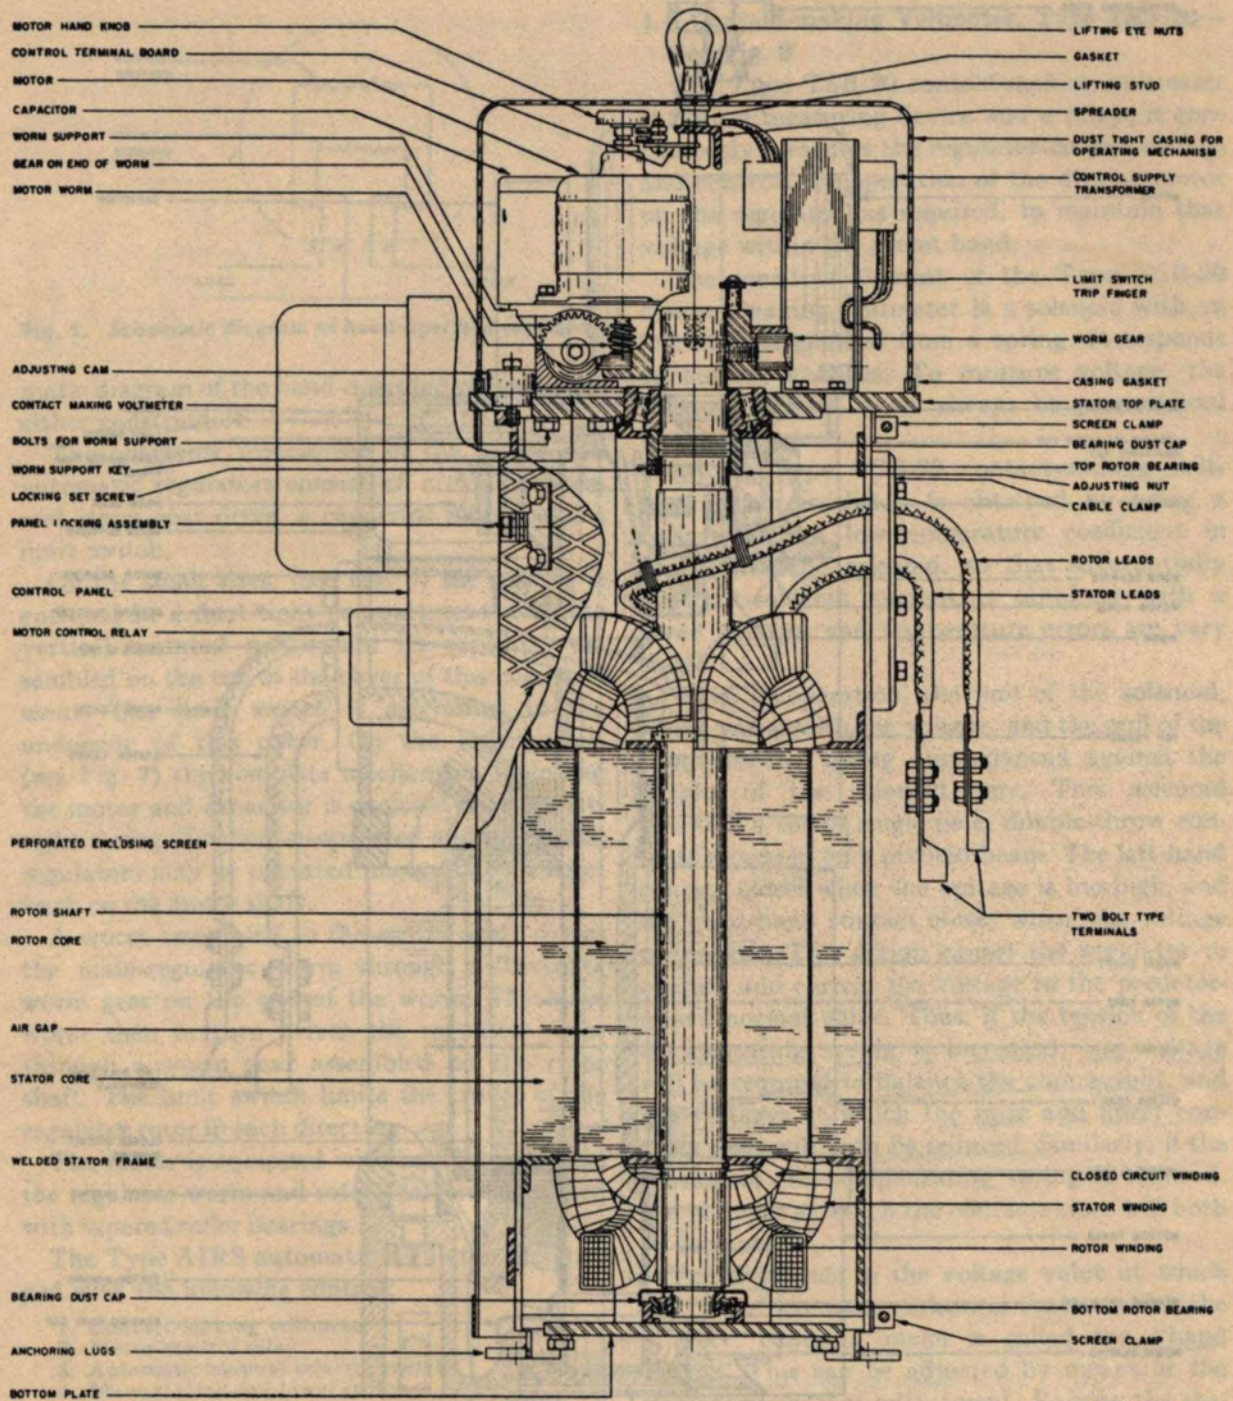
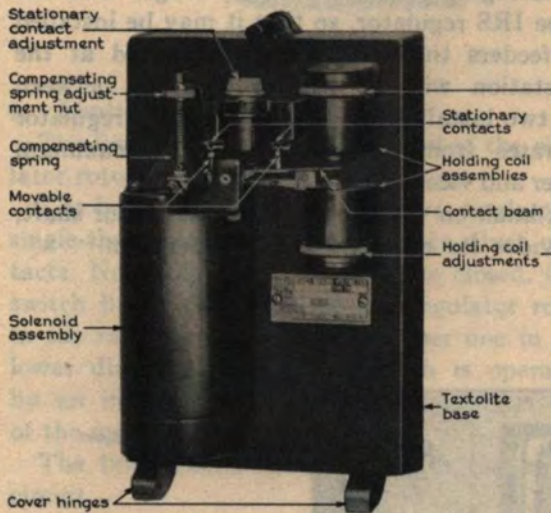

Fig. 7. Sectionalized view of the large kva-size regulator
Fig. 6. Type TSB-20 contact-making voltmeter
6.0 kva short-time duty; the other has a welded-type construction, similar to that used on the interior of the oil-filled induction regulators for larger kva sizes. These two types of constructions are shown in Fig. 6 and 7.
Automatic regulators up to 3.6 kva sizes (Fig. 6), because of their physical size, require separate sources of power for the control motor and contact-making voltmeter. The control panel is furnished for mounting separate from the regulator.
On kva sizes of automatic regulators above 3.6 kva (Fig. 7), the control is supplied from a two-winding transformer assembled on the regulator-stator cover, and the control panel is mounted on the front of the regulator.
On the small sizes, (see Fig. 6) the gearing is enclosed in a dust-tight compartment with the vertical-mounted motor and its capacitor assembled on the top of the cover of this compartment. The limit switch is assembled to the underside of this cover. On the larger sizes, (see Fig. 7) the complete mechanism, including the motor and capacitor is enclosed with a dust-tight casing. The motor-operated and automatic regulators may be operated manually by a hand knob on the motor shaft.